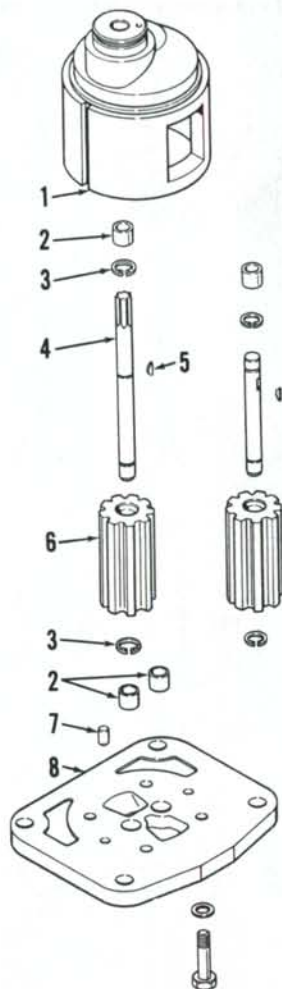

Fig. 246—Exploded view of charge pump used on Model 2390, 2590, 2394 and 2594 tractors.
To disassemble removed charging pump, refer to Fig. 246. Bushings (2) are